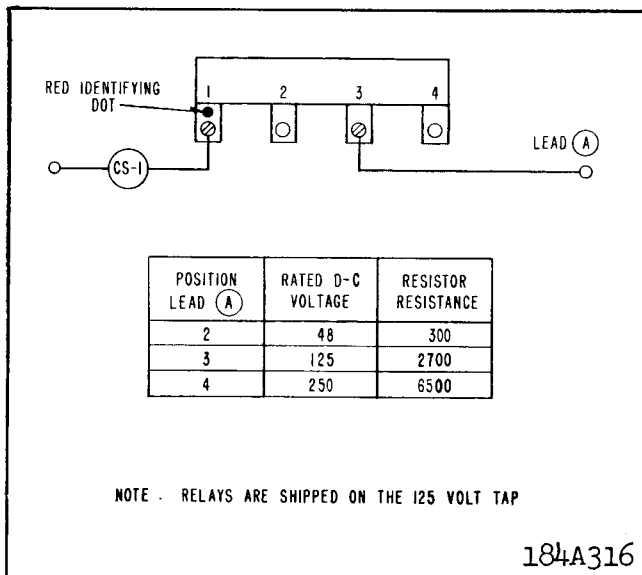

Fig. 13. Selection of Proper Voltage Tap for Auxiliary Switch (CS-1) Operation.
No setting required on the CS-1 unit except for the selection of the required 48, 125 or 250 voltage on the tapped resistor. This connection can be made by referring to Fig. 13.
Connect lead (A) to proper terminal per Fig. 13. Block directional unit (D) contacts close and energize trip circuit with rated voltage. Contacts of auxiliary switch (CS-1) should make as indicated by a neon lamp in the contact circuit.